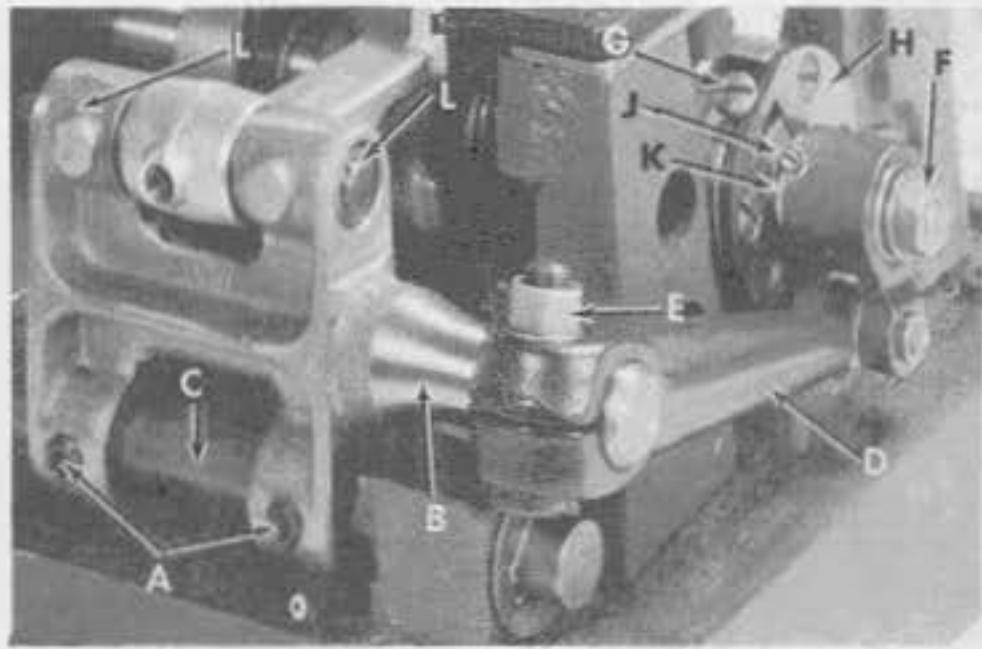

Fig. 10
Should it be necessary to move the feed dog to the left or right, loosen screws (A, Fig. 10) which hold the feed rocker (B) onto the feed rocker shaft (C), and move feed rocker to desired position and retighten screws. Make sure the feed rocker arm (D) does not bind after making this adjustment.
Should it be necessary to move the feed dog forward or backward, loosen nut (E, Fig. 10) which clamps the feed rocker arm to the feed rocker and move the feed rocker forward or backward as needed and retighten nut.
Set the stitch to required length. This is accomplished by loosening the locknut (F, Fig. 10) 1/2 turn (it has a left hand thread) on the end of the stitch regulating stud and turning the stitch adjusting screw (G) located under the left end of the cloth plate, in the head of the main shaft (H), which is marked with "L" and "S". Turning the screw clockwise shortens the stitch (moves stitch regulating stud toward the "S") and turning it in a counterclockwise direction lengthens the stitch (moves stitch regulating stud toward the "L"). Retighten the locknut securely. To prevent destructive damage to the feed drive bearing, the Key screw (J) must engage the "U" shaped key slot in the ferrule (K).
Machines having needle bearings in the feed rocker at locations (L, Fig. 10) may require repacking after years of service. Bearings should be thoroughly cleaned and repacked with Union Special Corporation grease No. 28604 P.